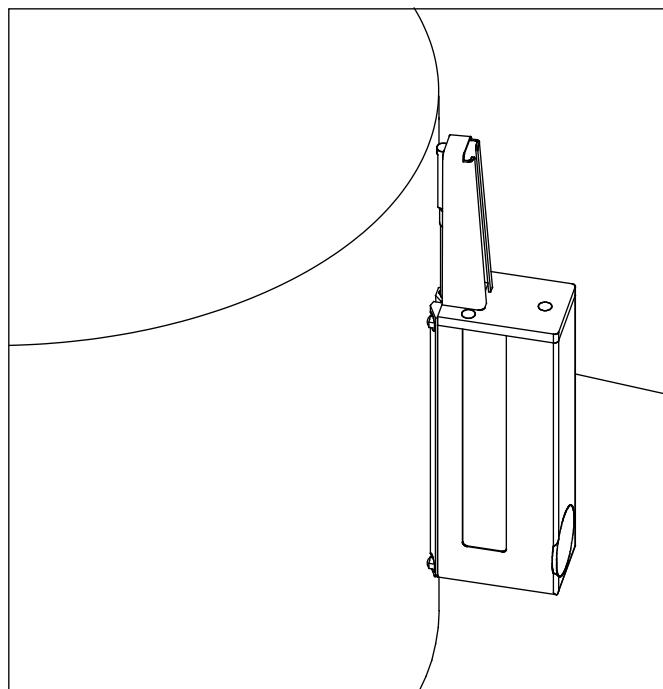

Fig. 10
- The drive unit's bottom is pressed manually against a vertical surface. According to the measurement task, the drive unit must be held either vertically (see *Fig. 10*) or horizontally.